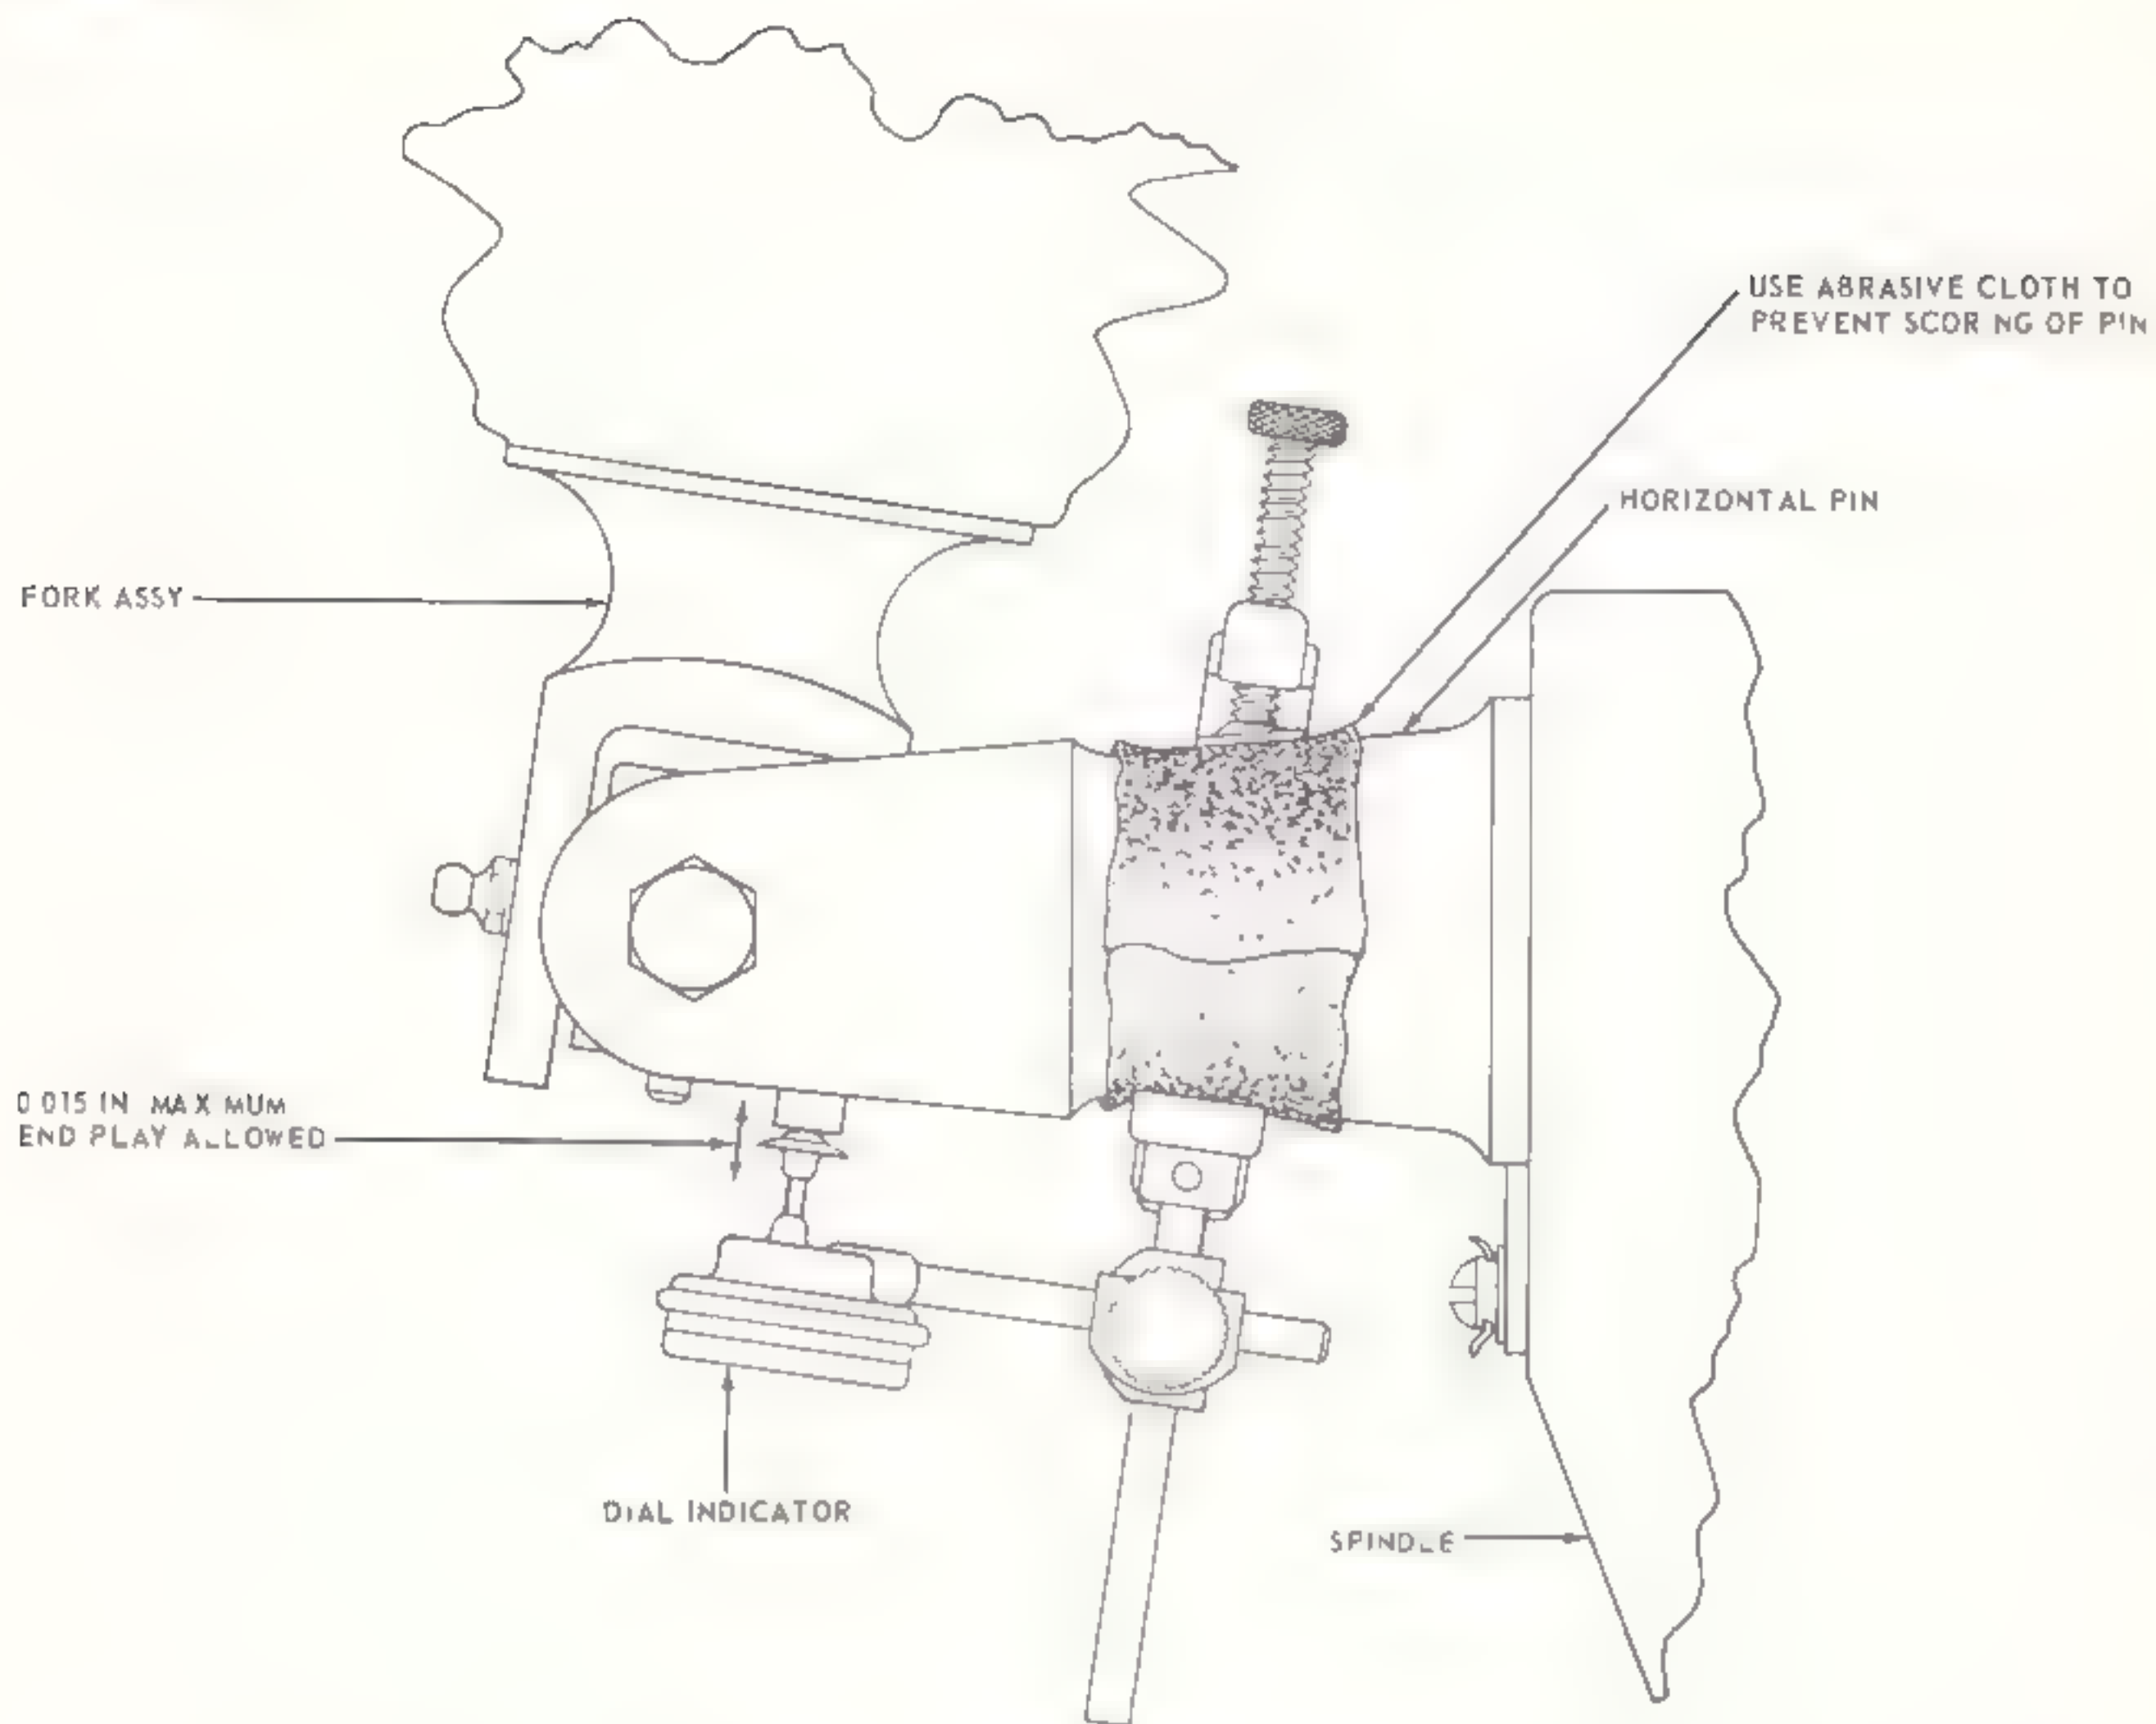

Figure 8-2. Measuring end play in damper transmission
(1) Wrap pin with abrasive cloth (item 23, table 1-8) (grit side out) as shown in figure 8-2.
(2) Install dial indicator on pin and damper fork assembly as shown in figure 8-2.
(3) Holding applicable main rotor blade in maximum lead position, set dial indicator.
(4) Move applicable main rotor blade to maximum trailing position and read end play indication on dial page.